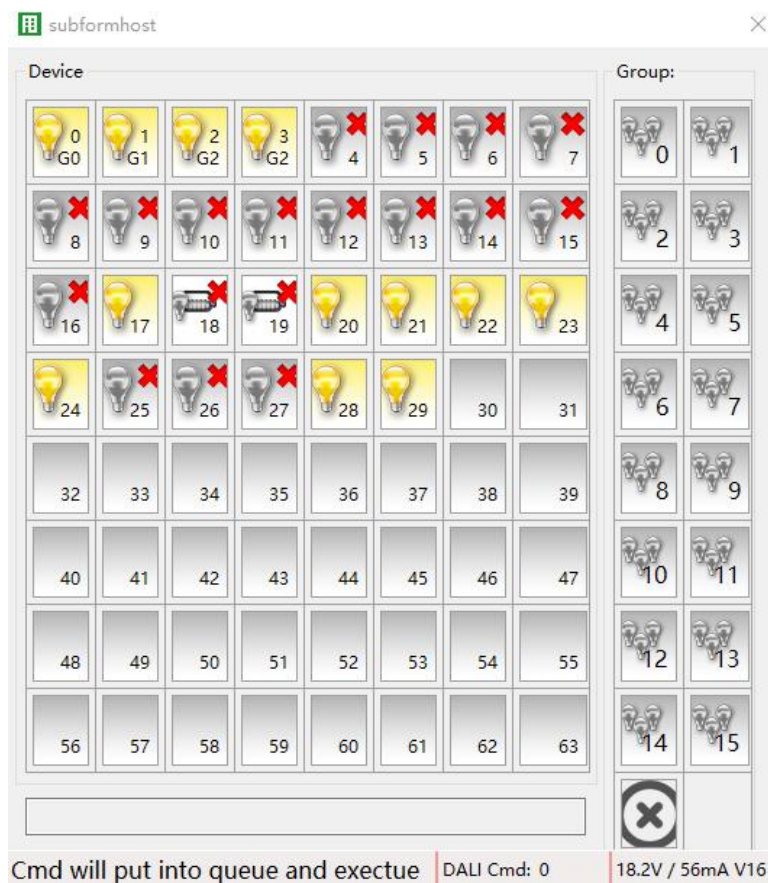

Fig. 2.6 Online|Group test interface
enter Online|Group test interface, as shown in Fig. 2.6.
① **[StoreDevice]**: Save the modified configuration of the device. After saving, the device on the DALI bus can apply directly the saved configuration.
② **[ReadDevice]**: All information of the device can be read from DALI bus, and display to DCA synchronously, such as device type, parameter setting, scene setting.
③ **[ApplyUserConfig]**: After importing configuration, if you want some devices to use this configuration, then click this button, and it can apply user configuration to device and display to parameter interface synchronously. If you want to save to the device, you also need to click the button [StoreDevice].
④ **[Addr.]**: Display the DALI address of the selected DALI device, users can modify DALI address in the Online|Group test interface, as shown in the Fig. 2.6.
⑤ **[Desc.]**: Click the configuration of this parameter to modify description of DALI device.
⑥ **[DeviceType]**: Display DALI device type, such as DT6 for displaying 6 in the column.
⑦ **[Group]**: Display the group that DALI device belongs to. “NotJoin” means not assigning to any group. Click the configuration of this parameter to get the drop-down menu, it can assign groups to DALI devices.
⑧ **Parameter setting**: Parameter setting of the DALI device including fade time, fade rate, max.level brightness, min.level brightness, power on level, system failure level and Phys.Min.level brightness, in which Phys.